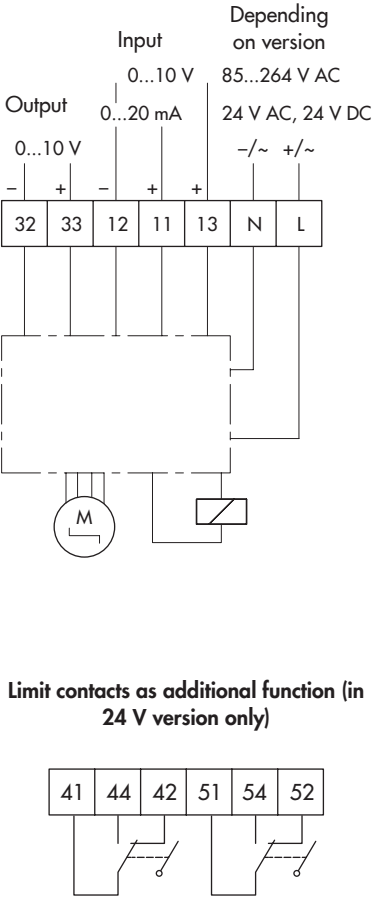

Fig. 10: Electrical connection
2. Perform electrical wiring according to Fig. 10 on page 28 and carefully re-fasten the housing cover.
- Connect the wiring as shown in Fig. 10.
Terminal assignment (Fig. 10):